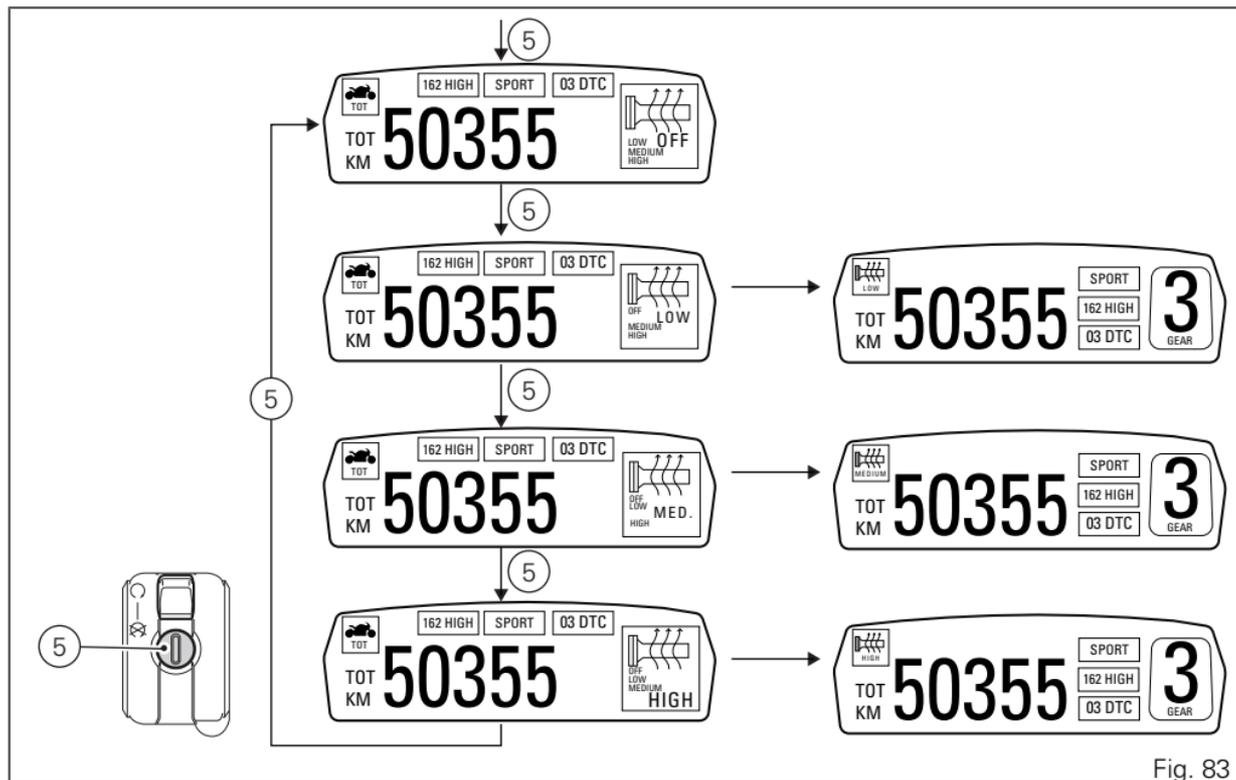

Fig. 83
- one with Menu 2 disabled (Fig. 83);